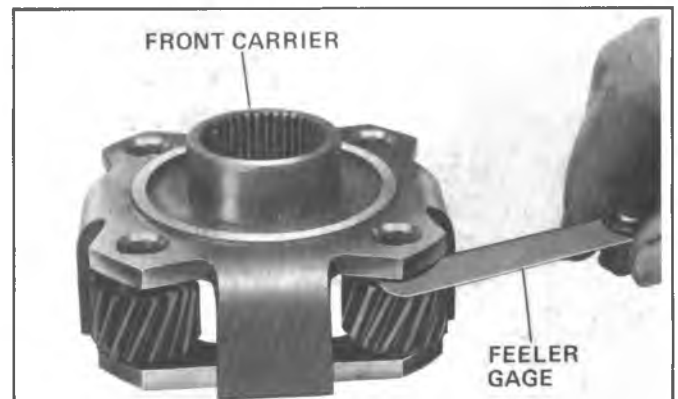

Figure 7A6-117 Checking Front Carrier Pinion End Play
3. Check pinion end play. Pinion end play should be 0.24-.060 mm (.009"-.024") (Figure 7A6-117).